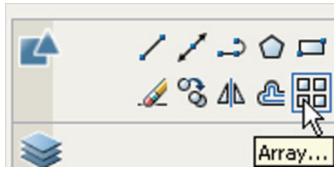

Fig. 5.16 The **Array** tool icon from the **2D Draw** control panel
2. Call the **Array** tool – either *left-click* the **Array** tool icon in the **2D Draw** control panel (Fig. 5.16), or *pick* the **Array** tool icon from the **Modify** toolbar, or *pick Array...* from the **Modify** drop-down menu, or *enter ar* or *array* at the command line. No matter which method is used the **Array** dialog appears (Fig. 5.17).